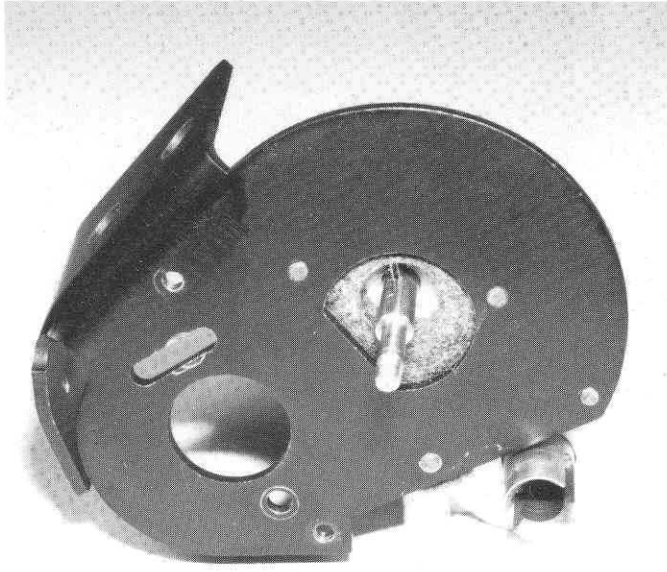

Fig. 60
□ **Figs. 60, 61 & 62** Now we'll assemble the clutch Torque Control assembly. Slip the #6583 inner clutch hub in Bag E onto the shaft, making sure the slots align with the pin.